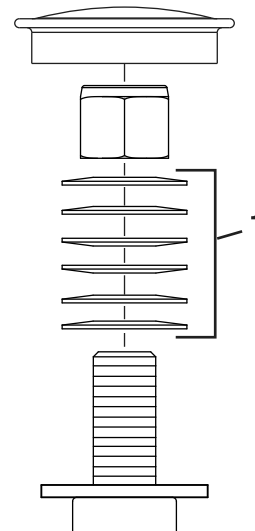

Figure 54
3. Remove the dust cap from the caster and tighten the locknut (Figure 54).
4. Tighten the locknut until the spring washers are flat, and then back off a 1/4 turn to properly set the preload on the bearings (Figure 54).
**Important:** Make sure that the spring washers are installed correctly as shown in Figure 54.
5. Install the dust cap (Figure 54).